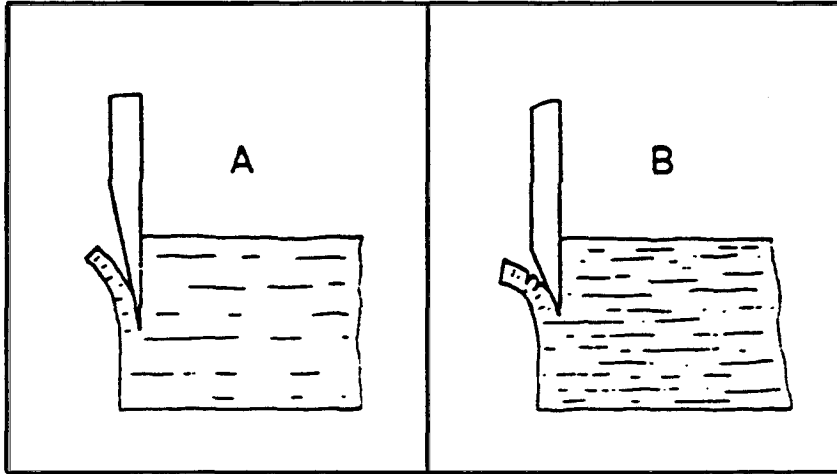

FIG. 16
- (iii) Given the two chisel profiles (Figure 16), which chisel is the most appropriate for use in a hard timber, e.g. tallowwood?